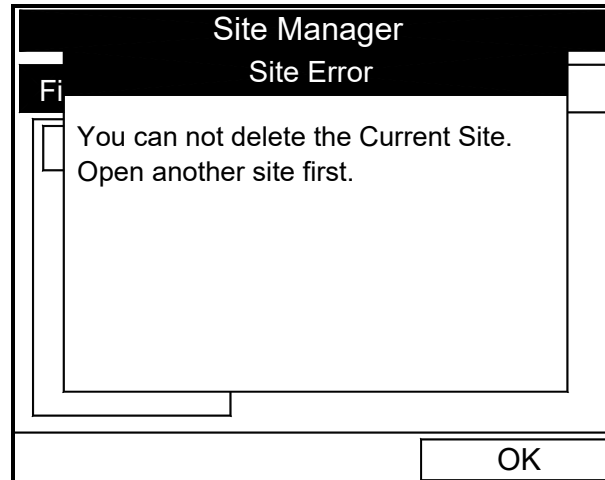

Figure 57: Site Error Window
To delete a site in the Site Manager, first highlight that site in the left window of the Site Manager. Then press **[MENU]** to open the File Menu, scroll to the Delete option, and press **[ENTER]**. You cannot delete the current (open) site. If you try, the following display appears (see Figure 57 below). Press **[F3]** (OK) to return to the File Menu.